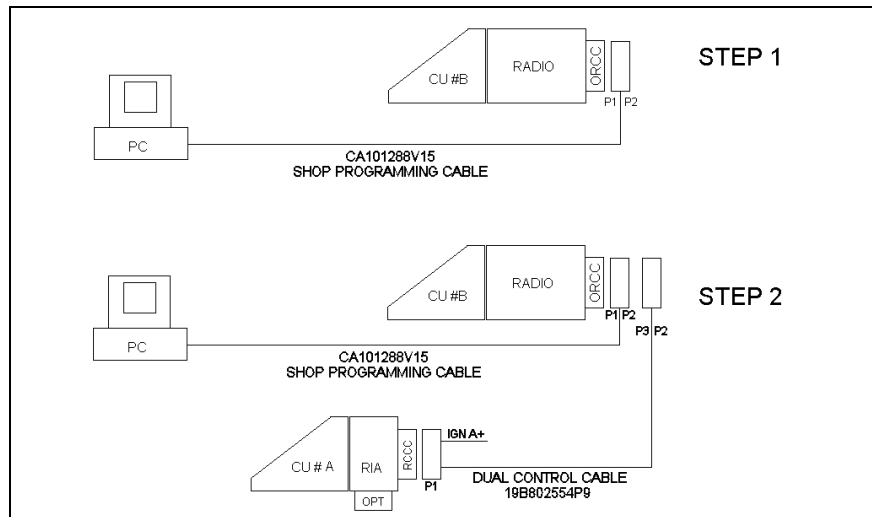

Figure 10-2: M7100^{IP} Dual Control Unit PC Programming Configuration
1. Connect the M7100^{IP} Front Mount Radio with ProGrammer Assembly, as shown in Figure 10-2, Step 1. Program the radio with the following control configurations:
2. Connect the Front Mount Radio and the Auxiliary Control Unit together with ProGrammer, as shown in Figure 10-2, Step 2. Program this configuration with the following files: